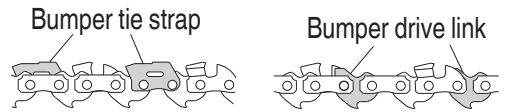

Fig. 38
- Do not sand the top part of the bumper tie strap and bumper drive link, nor cause the shape of said parts to deform. (Fig. 38)